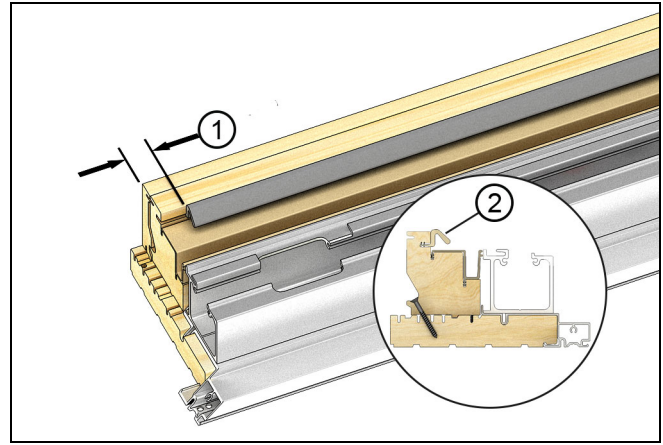

Figure 28
11. Insert the weatherstrip 11/16" (17) from the end of the support block. See Figure 28.